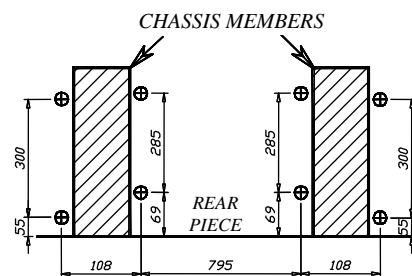
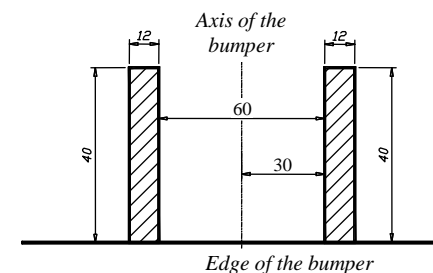

Fig. 2 View from the bottom of the car (after take off the bumper)
Fig. 3
2. From the bottom of the car mark points according to fig. 2. Next drill holes using bit $\varnothing 1\text{mm}$, make it very carefully.
3. Inside the trunk put suitable upper fish-plates (pos. 8) on to made holes.
4. From the bottom of the car put side brackets (pos. 4 and 5) and through holes (pos. A) and fish-plates (pos. 8) fix using bolts M10x35mm (pos. 10).
5. From the bottom of the car put fish-plates (pos. 6 and 7), next through holes (pos. B) and fish-plates (pos. 8) fix using bolts M10x35mm (pos. 10) .
6. Through holes (pos. C) fix main bar of the towbar (pos. 1) with side brackets using bolts M12x35mm (pos. 9).
8. Install the bumper after cut out of its fragments (see fig. 3).
9. Fix body of the automat and place tow-ball according to supplied instruction. Note! Remember to place socket plate (pos. 3) as shown on the drawing 1.